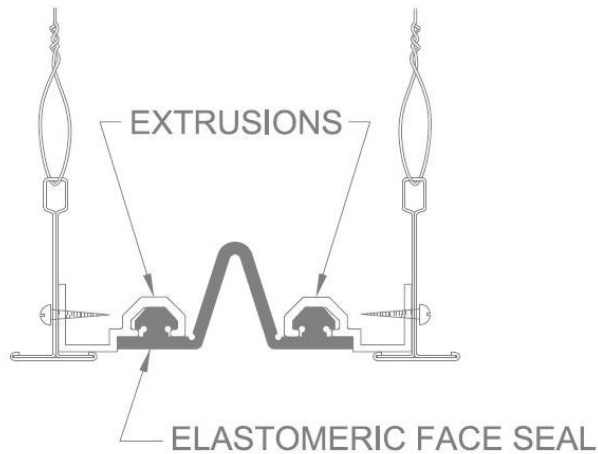

FIGURE 2
2. Position the elastomeric seal into position and push the seal bulbs into the extrusion channels as shown. Make sure you hold the “T” grid securely and seat the bulbs all the way into the channel. Do not stretch the seal lengthwise during installation. **See Figure 2.**